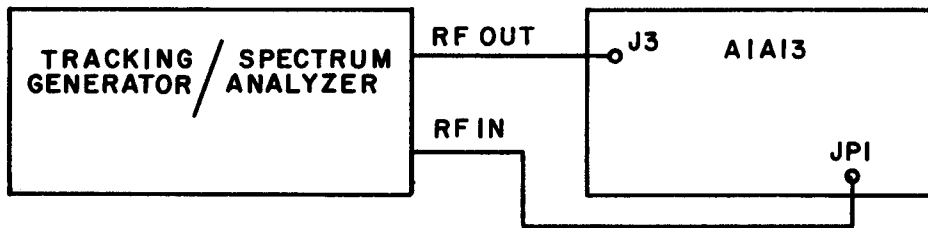

Figure 4-6. Low-pass Filter Alignment, Equipment Connections
- 1) Extend the Preamplifier/Converter module via test cable TC30047 and connect the test equipment as illustrated in **Figure 4-6**. Refer to **Figure 5-27** and **Figure 5-29** for jumper (JP) locations.